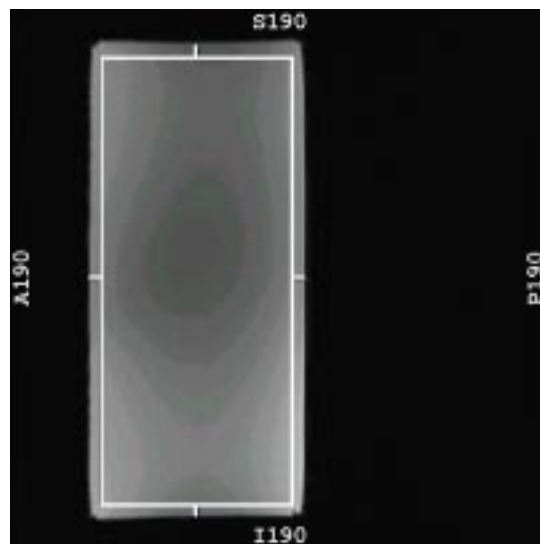

Figure 12: Positioning signal region of interest.
- Step 3 -- Place a rectangular region of interest (ROI) on the phantom so the four sides just touch the inside ends of the four 5mm lines that were created in step 2 (see *Figure 12*).